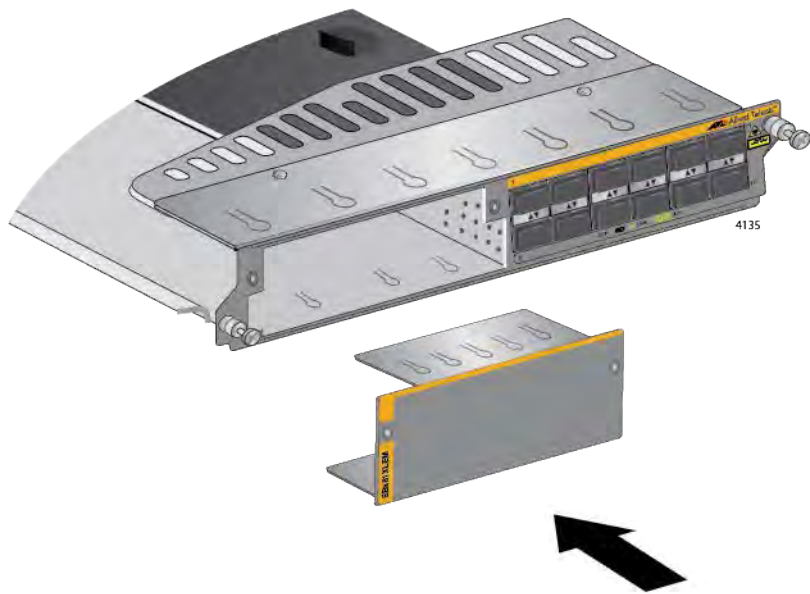

Figure 179. Sliding the Blank Slot Cover into the AT-SBx81XLEM Line Card
9. Slide the blank slot cover that comes with the line card into the slot on the card. Refer to Figure 179 on page 289.